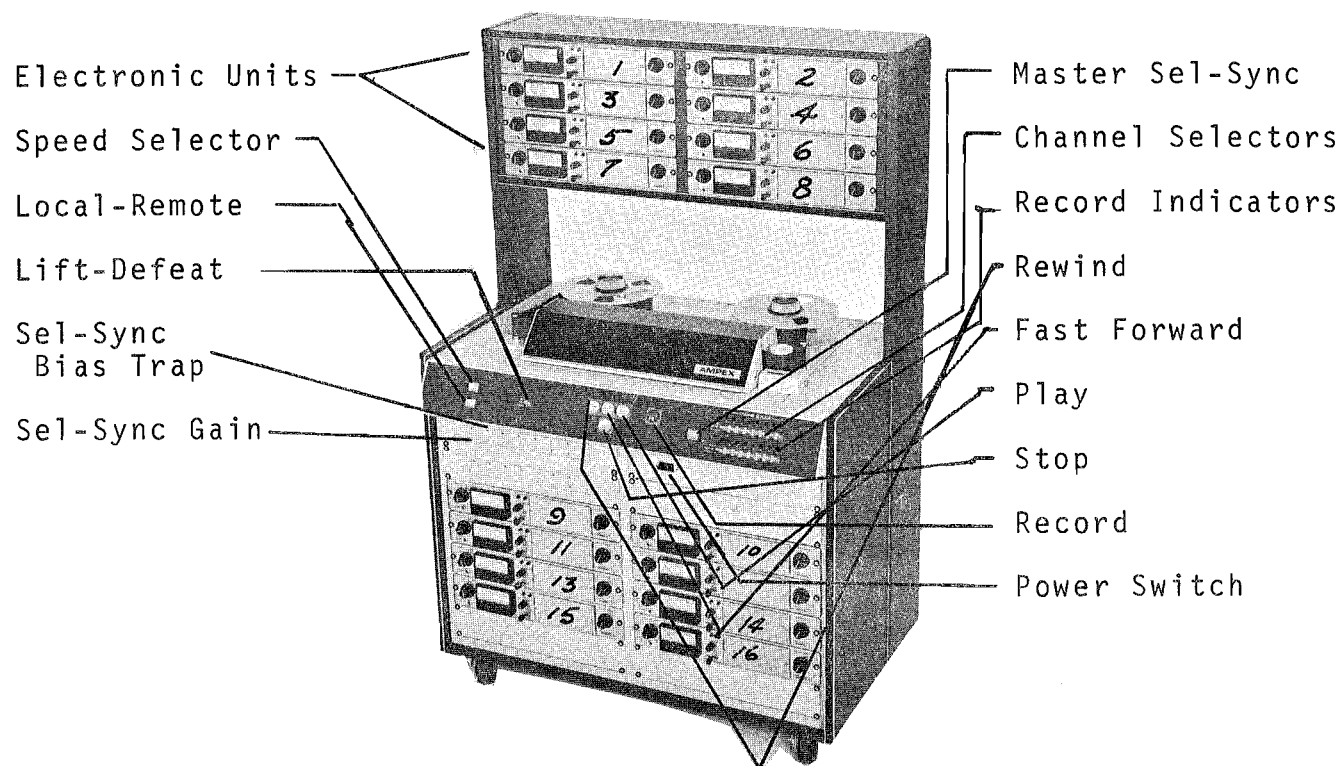

FIGURE 3-1
3.1 TAPE TRANSPORT, FIGURE 3-1